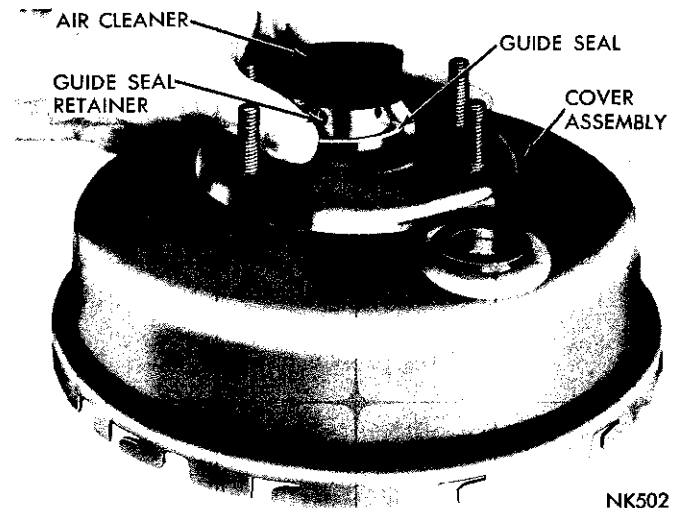

Fig. 28—Removing or Installing the Air Cleaner, Seal and Retainer
(11) Remove the air cleaner, guide seal and the guide seal retainer from the cover (Fig. 28).
(12) Remove the block seal located in the center hole of the housing, using a blunt drift.
(2) Install a new cover seal on the retainer and lubricate thoroughly inside and out with silicone grease, then install in the cover bore (Fig. 28). Install a new air filter.